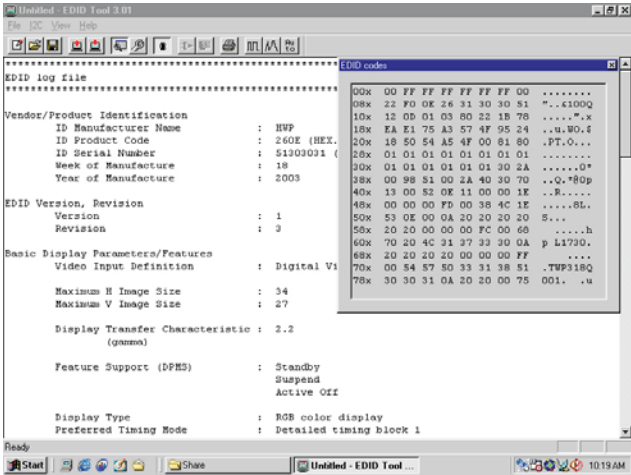

Fig.35
4. Click icon (Read EDID function) to read DDC EDID data from monitor. The EDID codes will display on screen as shown in Fig. 35.